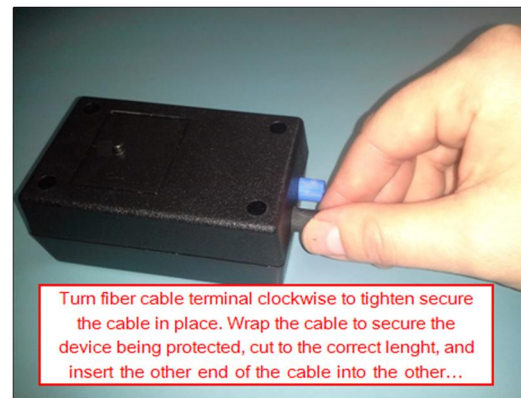

Figure 20 - Inserting fiber optic cable into terminal
2. Insert one end of the fiber optic cable into the Transmitter screw terminal until fully seated (see Figure 20).